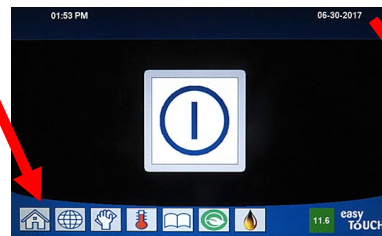

Figure 14
1. **WAIT FIVE (5) MINUTES** before proceeding to the next step.
2. Press the **"HOME"** button on the (see Figure 14).
11. Press the "HOME" button (see Figure 14) when finished.